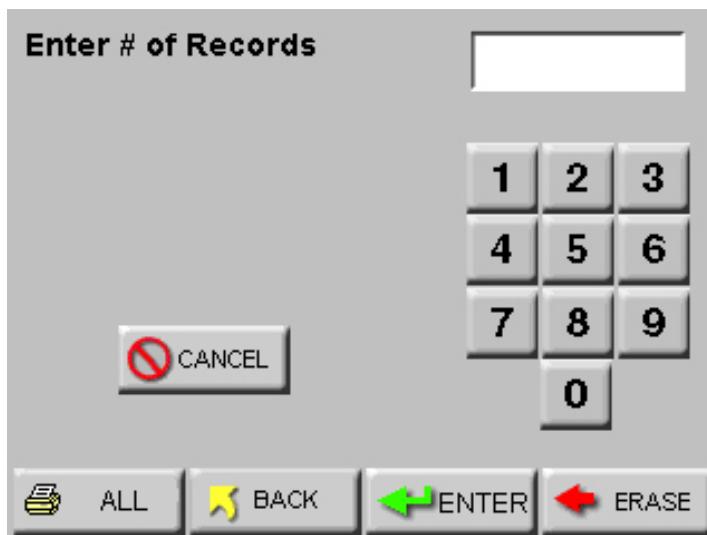

Figure 5-50 Print Range Screen
- Press the RANGE button. The following screen will display as shown in Figure 5-50.